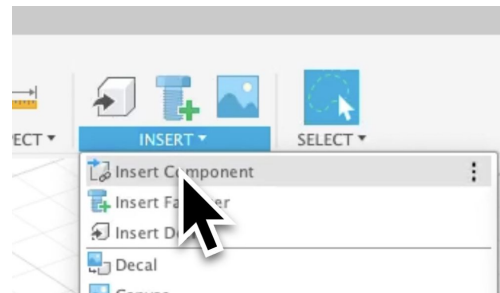

Figure 1.1
- To begin, open your new main assembly file. Under '**Insert**', you'll select '**Insert Component**' and select the reversed-engineered Arduino file (see Figure 1.1). This brings the board into your workspace.